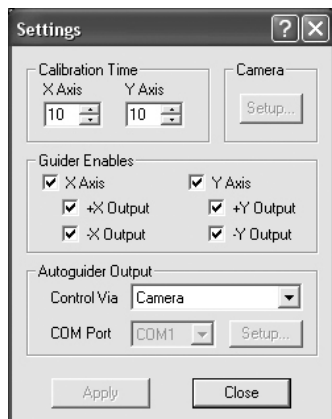

Figure 13. The autoguide **Settings** window controls the **Calibration Time** in each axis, movement in both axis, and the **Autoguider Output** connection to your mount.
- Maxim DL Essentials needs to know how fast the telescope moves in right ascension (R.A.) and declination (Dec.) when the autoguider commands are issued. To do this, the software will Calibrate the mount by moving it back and forth on each axis. The **Calibration Time** determines how long it activates the motors each time. The default value is 10 seconds. Make sure all of the **Guider Enables** boxes are checked (Figure 13).